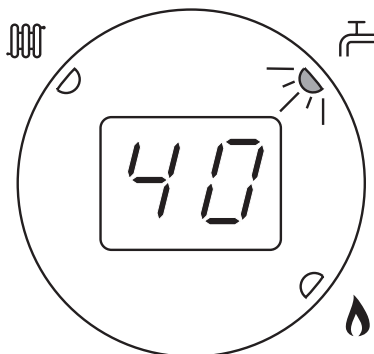

Fig. 6
7. During the pre-heat period the domestic hot water indicator will flash (Fig. 6).